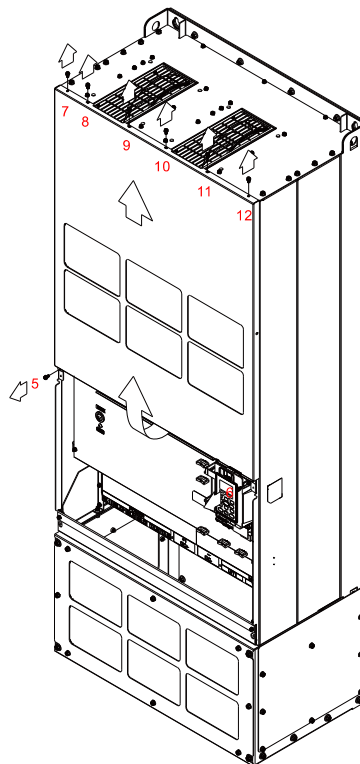

Figure 2
2. Loosen the screw 5–12 and remove the top cover (figure 2).